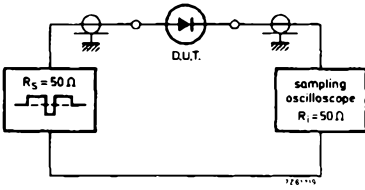

Fig. 2 Test circuit.
**Reverse recovery time (see Figs 2 and 3)**